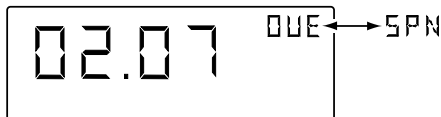

Figure B-9 SPN
- 2) Press and hold Switch One () to enter SPAN mode for adjusting displayed date. SPAN mode is indicated by the DUE date alternating with SPN as shown in Fig. B-9.